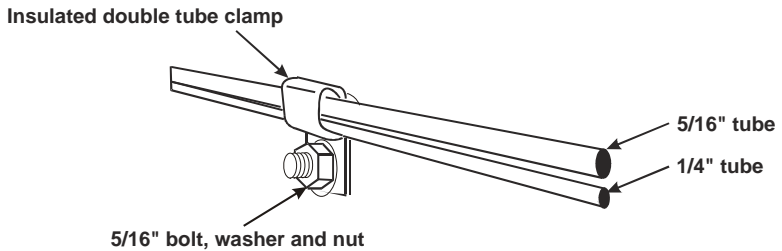

Figure 2.2
- Remove the two inner C-clamp bolts, place two double-tube insulated clamps over the tubes and fasten them in place along with the inside of the C-clamps (Figure 2.2).